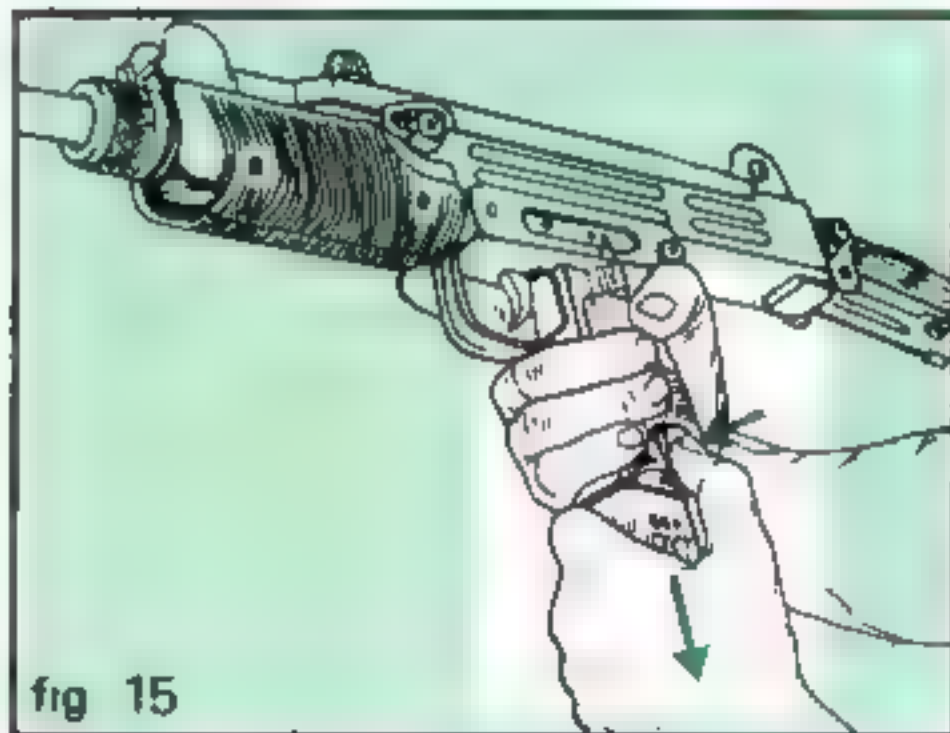

fig 15
- 2 Depress magazine catch and remove magazine (fig 15)